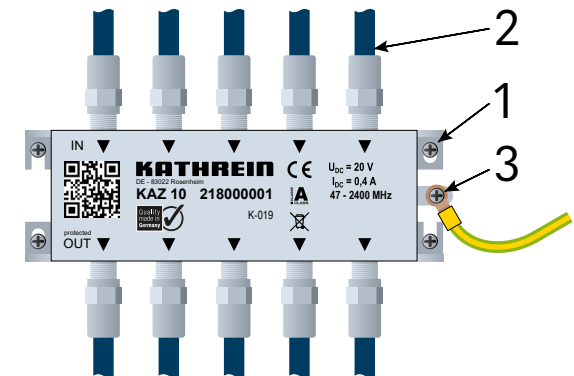

Fig. 1: Connecting the KAZ 10
2. The lateral mounting brackets (see 1 Fig. 1) allow you to mount the surge protector on a flat surface.
3. Connect the cables coming from the satellite antenna (see 2 Fig. 1), and any existing terrestrial antennas to the IN side of the surge protector.
4. Connect the housing via the lateral earthing screw (see 3 Fig. 1) to the local equipotential bonding by the shortest possible route.